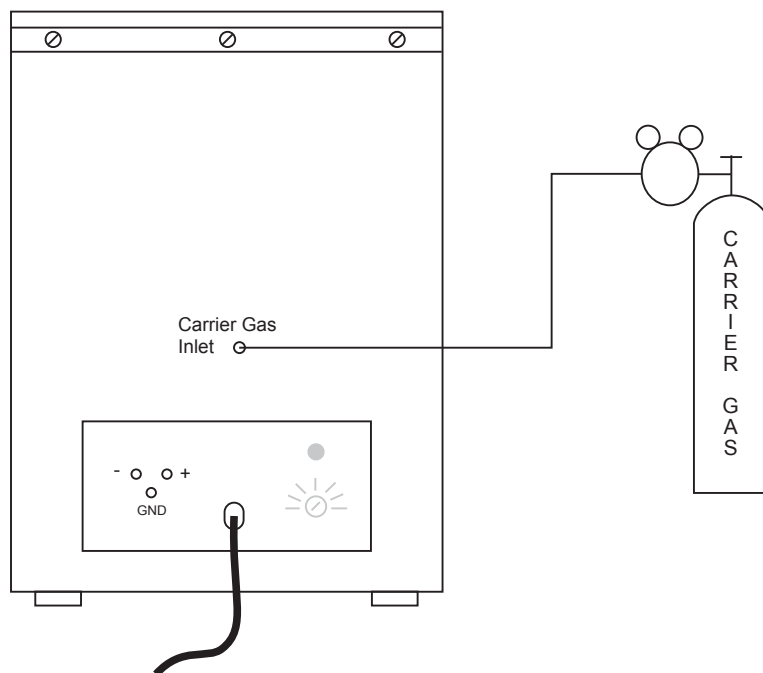

Figure 3-2
- A. A 1/8" o.d. stainless steel tube extends from the rear of the GC (Figure 3-2). This is the **CARRIER GAS INLET**.